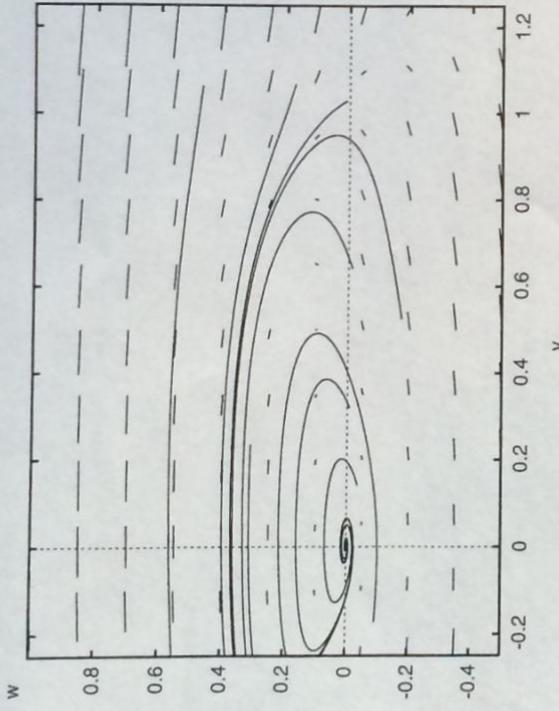

Figure B.9 Direction fields and some trajectories for the FitzHugh–Nagumo equations.
Click on **Initialconds** [**m**(1) ce] to experiment with a bunch of different trajectories. Note how the vectors from the direction field are tangent to the trajectories. See Figure B.9.